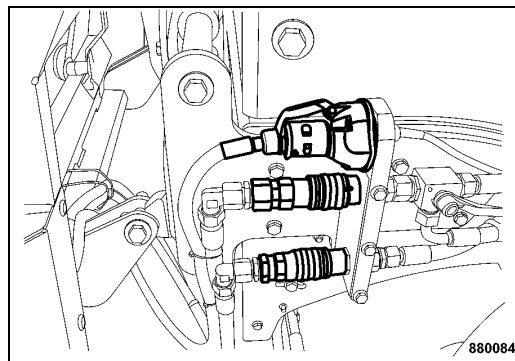

Fig. 90
- Connect the chip spreader hydraulically and electrically with the machine (Fig. 90).